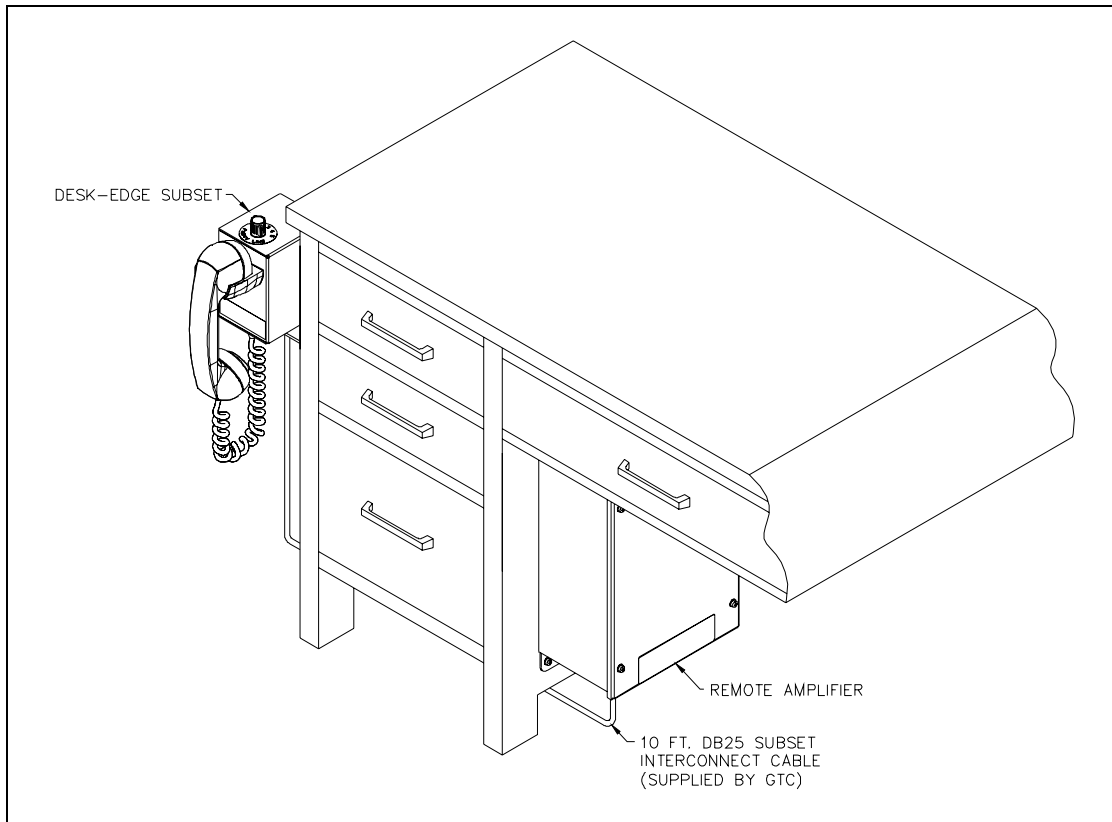

Figure 3. Typical desk-edge installation
2. Secure the bracket to a vertical surface using two #8 screws in the 0.20-inch (5.1mm) holes on the side of the mounting bracket. Refer to Figure 3 for a typical installation.